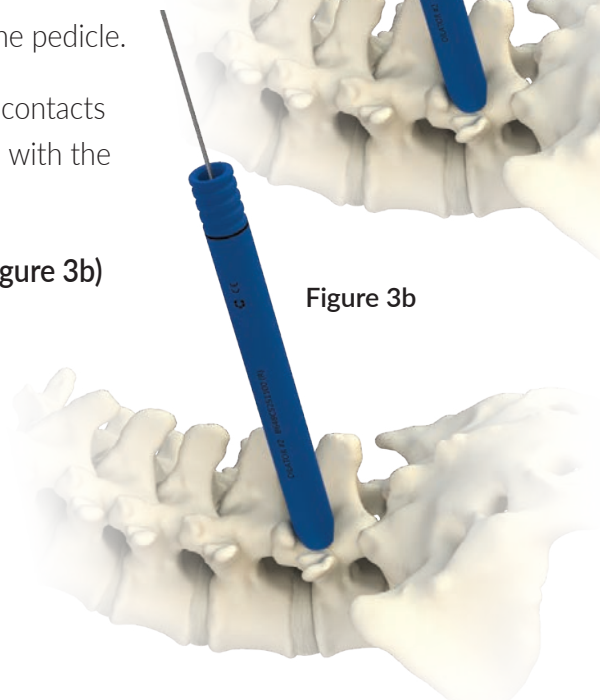

Figure 3b
- Remove Dilator #1 while holding the K-Wire in place. (**Figure 3b**)